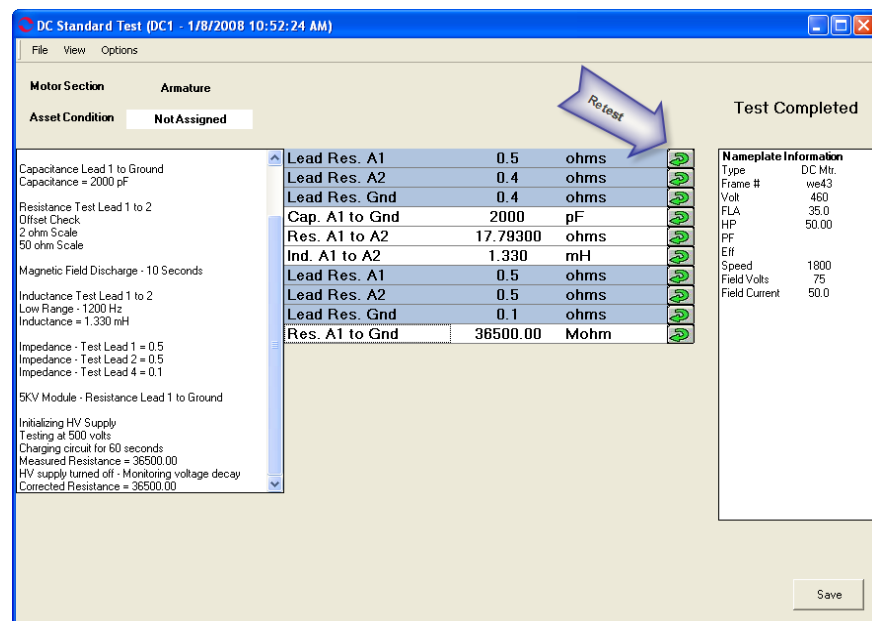

Figure 5-48: DC Standard Test Window
18. Testing begins, progress bars are displayed for Total Test Progress and Discharge Progress at various times. The test values are filled in as testing proceeds. At the end of testing Test Completed appears above the Nameplate Information area. See Figure 5-48.
If any portion of the test needs to be re-tested, double click the tab which appears to the right of the individual test point. This rechecks only that test point in “manual mode.” See Figure 5-48.